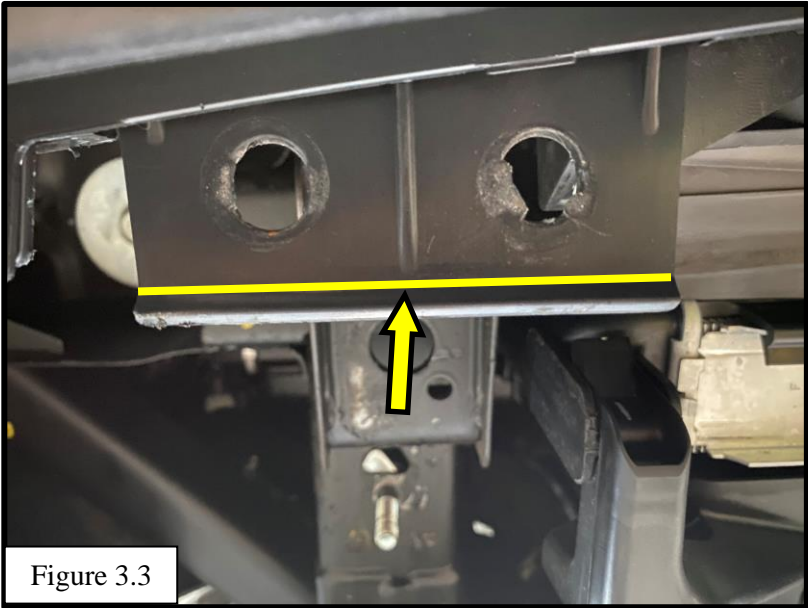

Figure 3.3
- Locate the bumper tabs attached to the lower portion of the bumper on each side of the vehicle. See Figure 3.3.